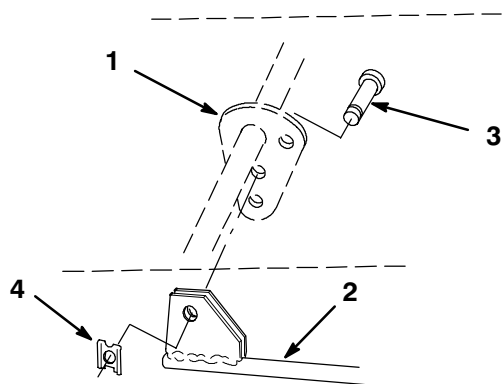

Figure 27
10. Disconnect the snowthrower lift rod from the attachment lift plate by removing the clip from the clevis pin (Fig. 27).